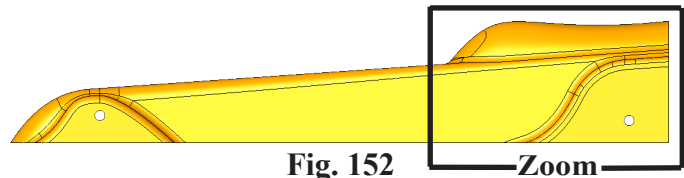

Fig. 152
Step 3. Zoom in around **cockpit**, Fig. 152. To **zoom**, hold down **Shift** key and drag with middle mouse button (wheel). To **pan**, hold down **Ctrl** key and drag with middle mouse button (wheel).